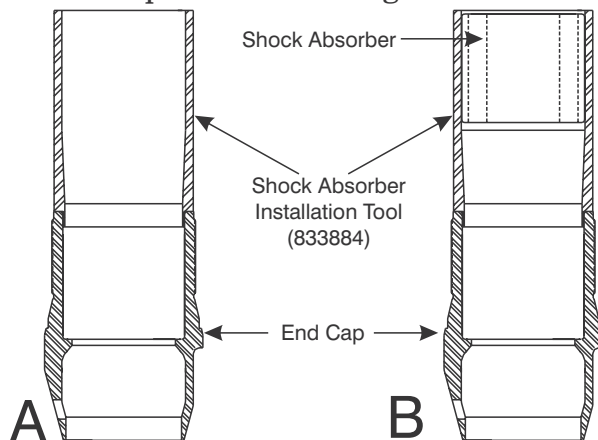

Figure 9-1. End Cap and Tool 833884 in Press
1. Position the End Cap (15) in an arbor press with the threaded end up. Insert the Shock Absorber Installation Tool, 833884, into the threaded end of the End Cap as shown in Figure 9-1-A.
2. Lubricate the O.D. of the Shock Absorber (13) and the I.D. of the Shock Absorber Installation Tool, 833884. Place the Shock Absorber into the Installation Tool as shown in Figure 9-1-B.